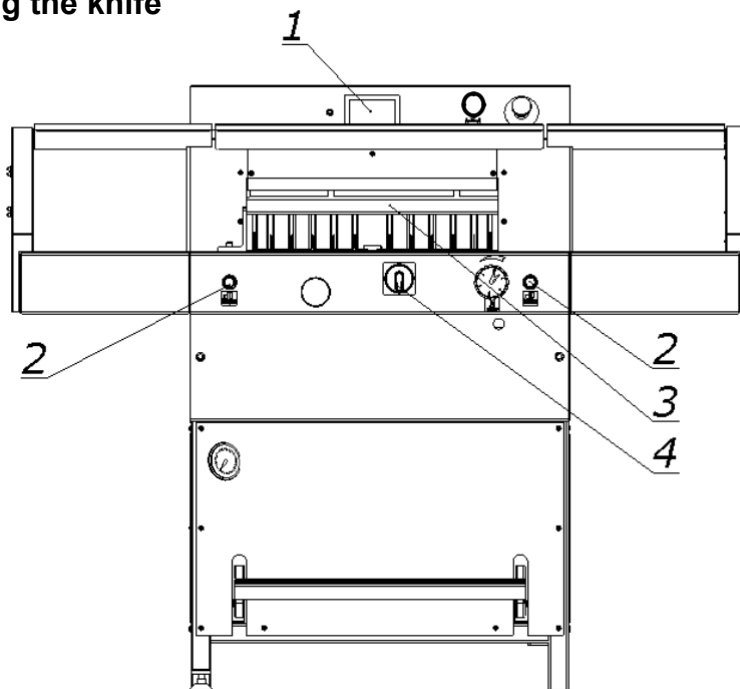

Figure 20
8.1.1.1 Select the "Change knife" function on the programmer 1 screen (Fig.20) ("Programmer's manual").
8.1.1.2 Pressing the push buttons 2  (fig.20) at the same time, start the cutting cycle. The knife 3 is held in the lower position.
8.1.1.3. Turn off the power supply of the electrical system by turning the main switch knob 4 (fig.20) to the "0" position